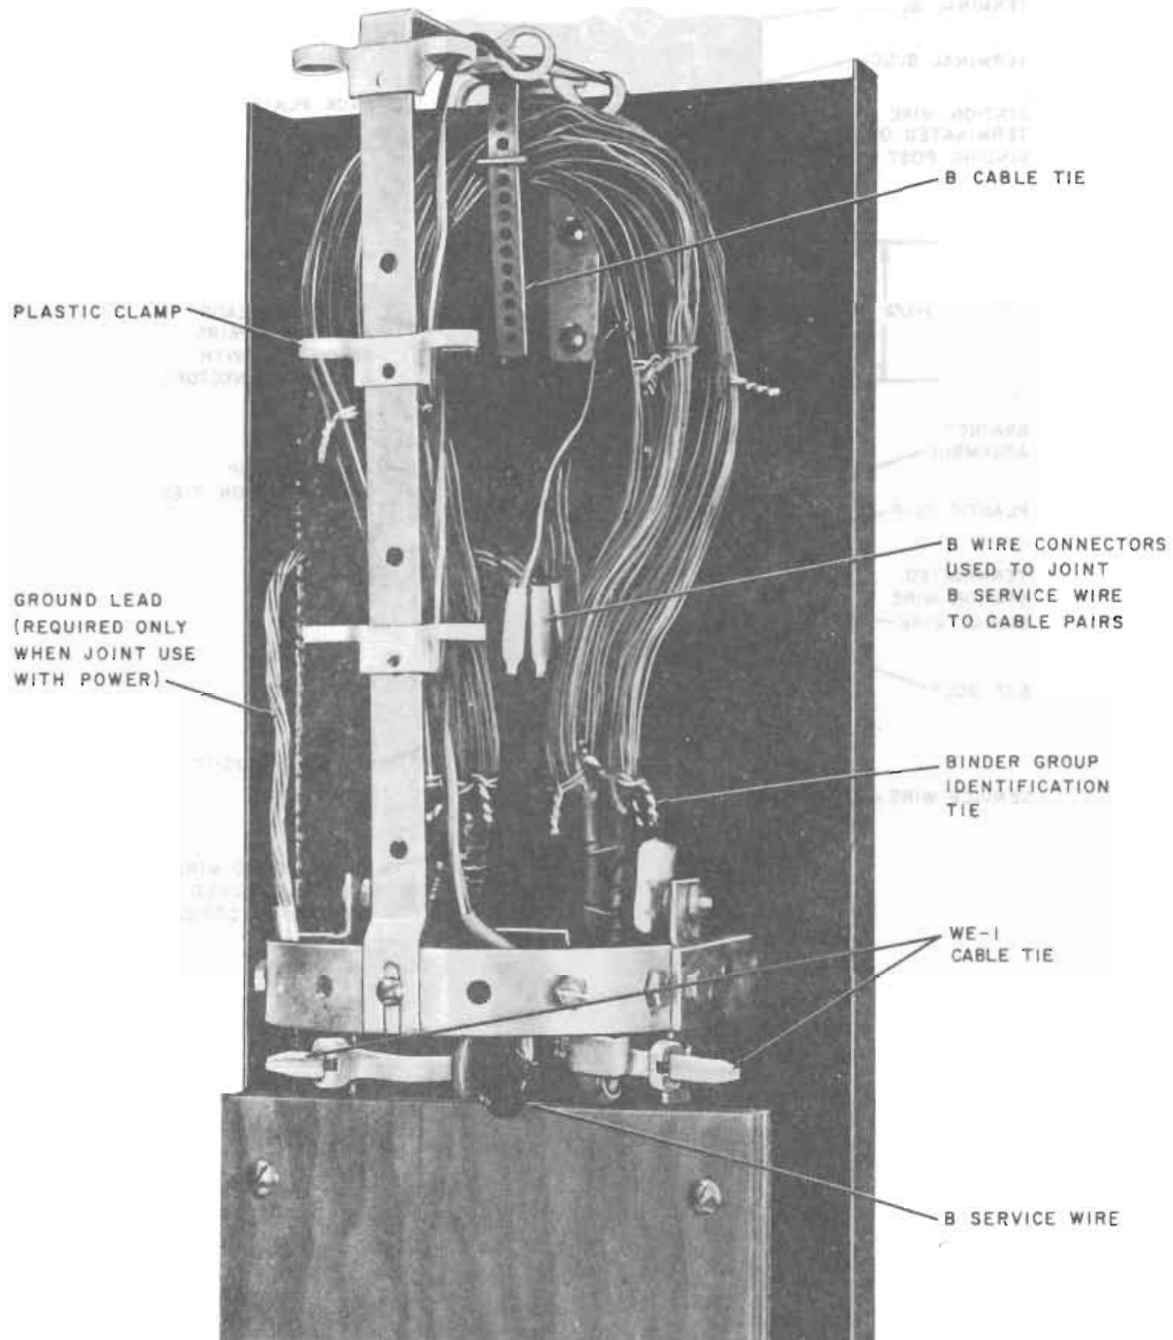

Fig. 18—Service Wire Installed—J Cable Closure (Nonprotected)
10.02 Run the service wire through the plastic clip on the bracket assembly and down through the plastic clip on the backplate (Fig. 18).
10.03 At each cable butt, place binder group identification ties (see 7.01) around the binder group containing the cable pairs to be connected. Remove the unit binder. Remove the assigned cable pair from the binder group and cut the cable pair (see 7.02). Place the cable pair up through the plastic clip on the backplate and bend down. Cut the cable pair conductors and service wire conductors even, 1-1/2 inches below the plastic clip. Connect the service wire conductors to the cable pair conductors with 700-type connectors or B wire connectors (Fig. 18, see 6.03).